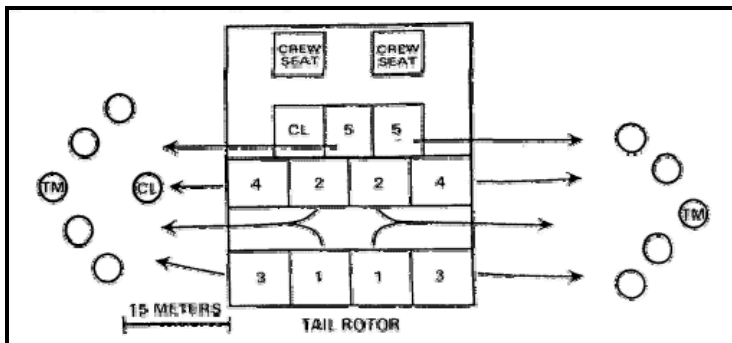

Figure 8-11. UH-60 unloading diagram.
- Individuals move 15 to 20 meters out from the side of the aircraft and assume the prone position, facing away from the aircraft with weapons at the ready, until the aircraft has departed the LZ (see Figure 8-11).